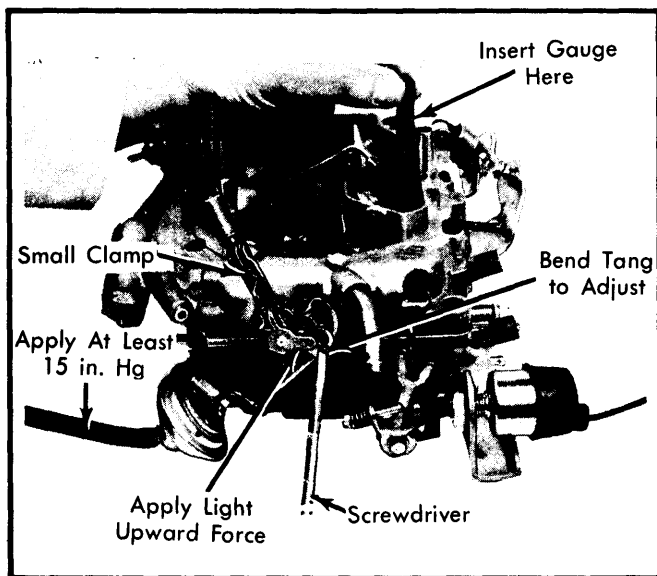

Fig. 9 Adjusting Choke High Vacuum Kick (International Harvester Models)
2) Apply an outside vacuum source of at least 15 in. Hg to choke diaphragm. Attach a small clamp to choke levers. Apply a light upward force to choke control lever. See Fig. 9.